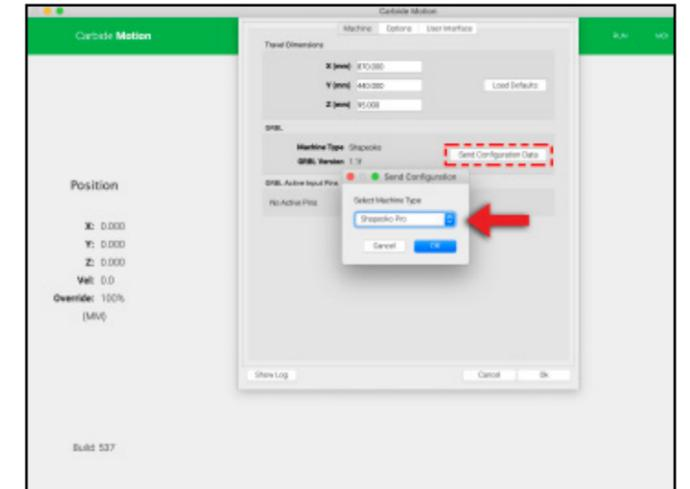

Figure 10-3
4. Click the **Send Configuration Button**. See Fig. 10-3.